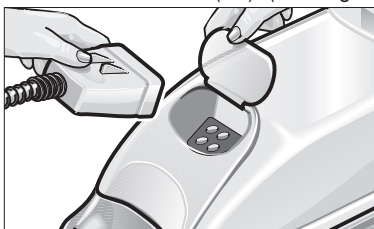

Fig. 1: Connecting the modular accessory plug
- Firmly insert the modular accessory plug (C6) into the socket (A1) above the handle on the main unit. Both lugs on the plug must lock into the cover for the main unit socket (A1). (See Fig. 1).